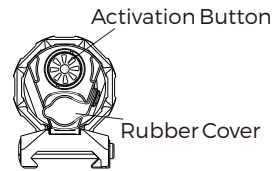

Fig 8
1. Short press the activation button to activate the flashlight. Short press the activation button again to power off. (See Fig 8)